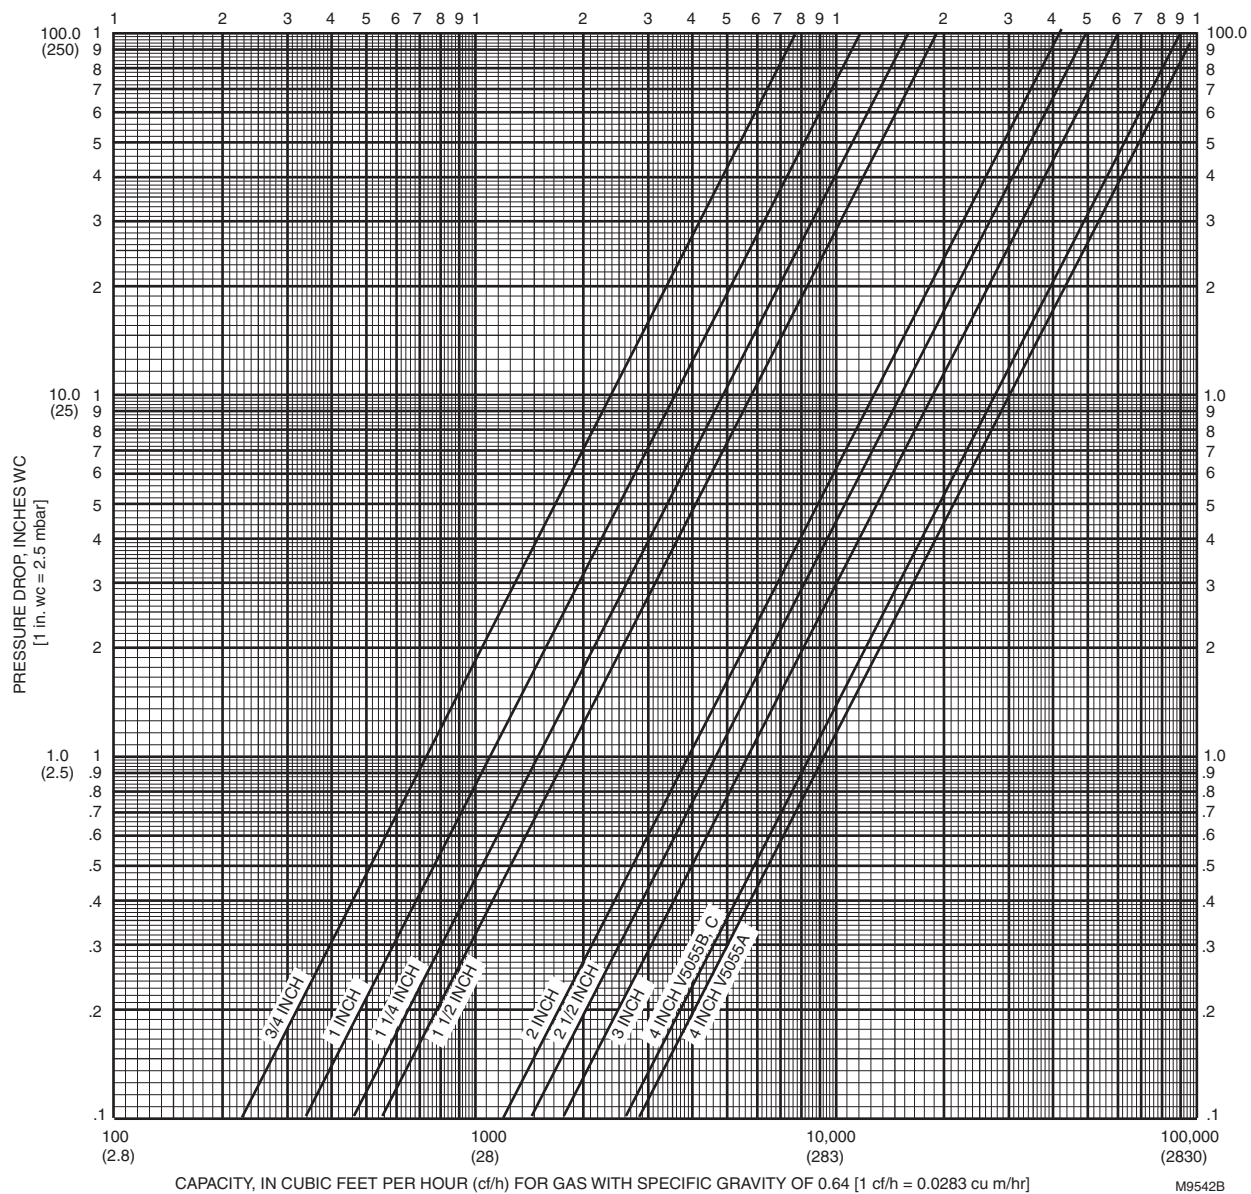

Fig. 1. Flow curves for V5055 Valves.
4. Use the corrected burner capacity in cf/h when determining the gas valve size in Fig. 1.
5. Determine the available pressure drop across the valve and draw a horizontal line at this pressure in Fig. 1.
6. Draw a vertical line in Fig. 1 at the capacity (cf/h) previously determined. Use the corrected capacity for a gas with a specific gravity other than 0.64.
4. Find the valve size from Fig. 1.